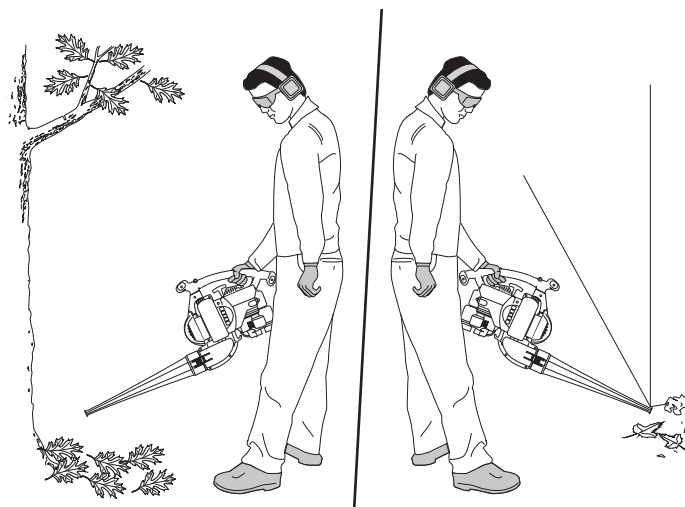

Fig. 14
- 1 Use the blower for trees, shrubs, flower beds and hard-to-clean areas (Fig. 14).
2. Use the unit around buildings and for other normal cleaning procedures (Fig. 14).